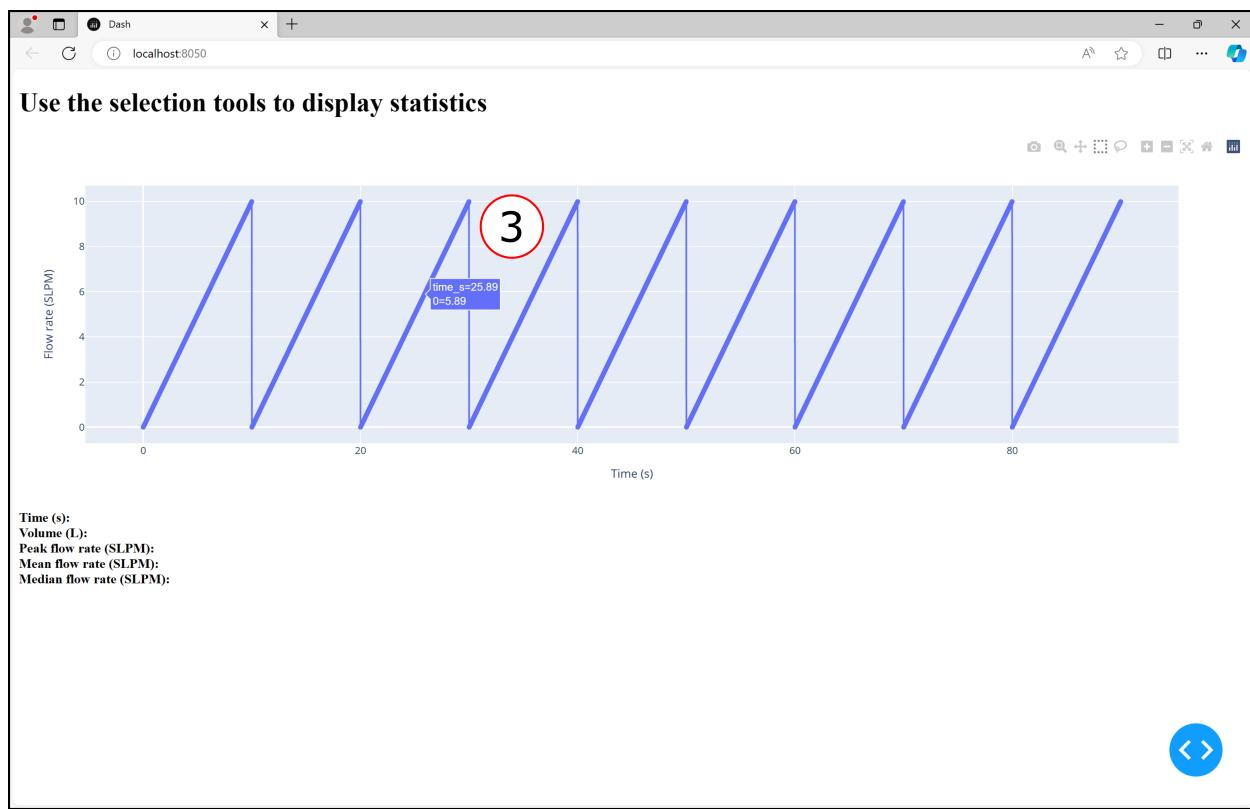

Figure 19: Hover over a data point to display its information.
- In the interactive plot, hover over any point to display the time point in seconds and the flow rate in the units of the flow meter (typically standard liters per minute, SLPM). (**Figure 19**). Use the plot controls to zoom, pan, or save a screenshot of the plot.